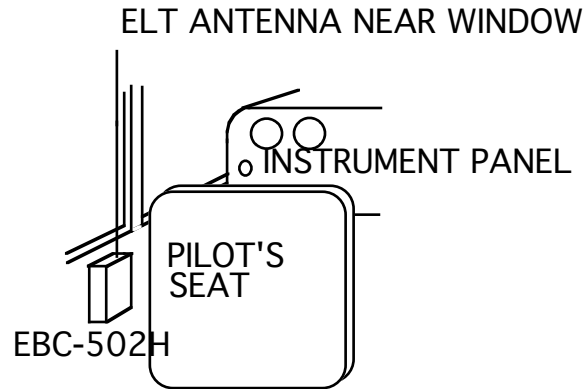

FIGURE 2: EBC-502H INSTALLATION SUGGESTION
5. The EBC-502H mounting bracket must be securely attached as per the above DO-183 requirements. After selecting a suitable location meeting all of the above requirements, drill and mount the EBC-502H mounting bracket. Figure 2 is provided to illustrate a possible mounting arrangement, not necessarily the only one.